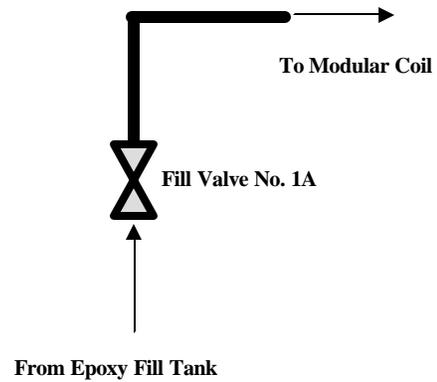

Figure 5- Typical Zone 1 Valve Assembly
- 6.15.7 **Open** all Zone 1 valves 1A thru 6A on the control panel to allow the epoxy to flow into the lower portion of the modular coil. Figure 5-Typical Zone 1 Valve Assembly